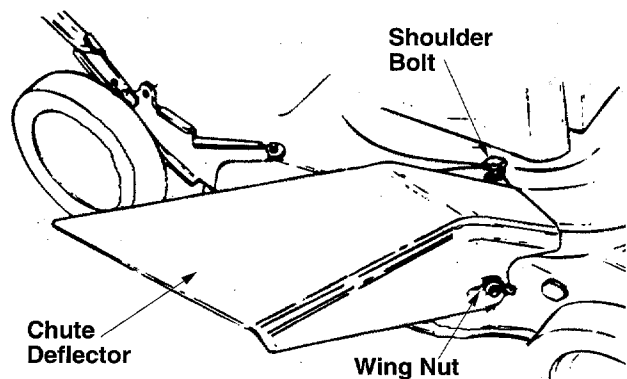
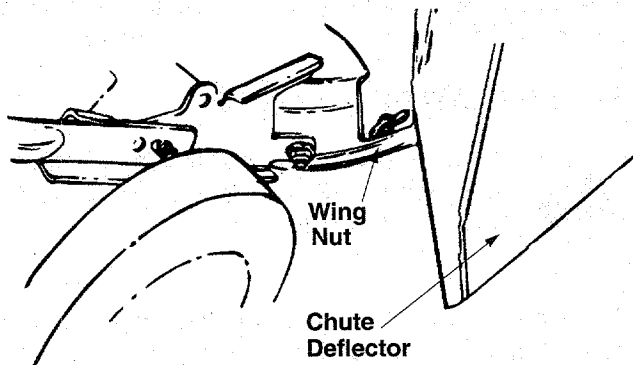

Figure 6
Figure 7
2. Attach the side chute deflector by first placing it over the rear bolt in the side of the deck. Then slide the notch in the top of the deflector around the shoulder bolt on top of the deck. Slide the notch in the side of the deflector around the front bolt in the side of the deck. See Figure 6.
- Secure the front of the chute deflector to the bolt on the side of the deck with one wing nut. See Figure 6. Secure the back of the chute deflector in the same manner. See Figure 7.